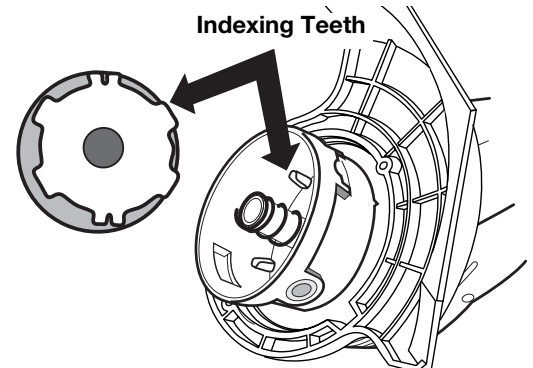

Fig. 12
4. Check the indexing teeth on the inner reel and outer spool for wear (Fig. 12). If necessary, remove burrs or replace the reel and spool.